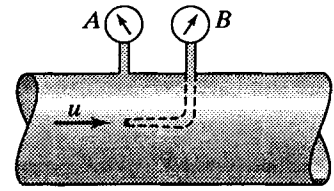

Figure S11.1
**Sec. 11.3: Measurement of Velocity with Pitot Tubes – Exercises (7)**
- 11.3.1 In Fig. S11.1 kerosene ( $s = 0.81$ ) is flowing. The pressure gages at A and B read 70 and 150 N/m2. Find the velocity  $u$  assuming  $C_I = 1.0$ .